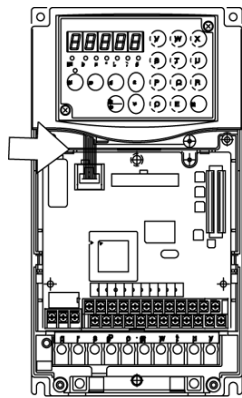

Figure 3.7
- (1) Removing the operation panel
Remove the cover according to the instructions in part (1) of section 3.3.1 and disconnect the operation panel connection cable (Figure 3.7).